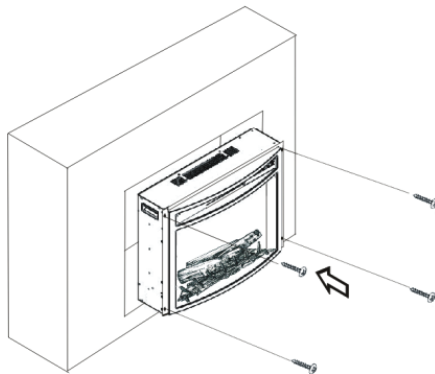

Figure 3
3. Locate the final location of your fireplace. Making sure that you have clear access to an electrical outlet, position the fireplace mantel close to it's final location, leaving enough room to access the front of the mantel. Use (4) M4 x 12mm Wood Screw (B) to affix the fireplace to firebox. [Figure 3]